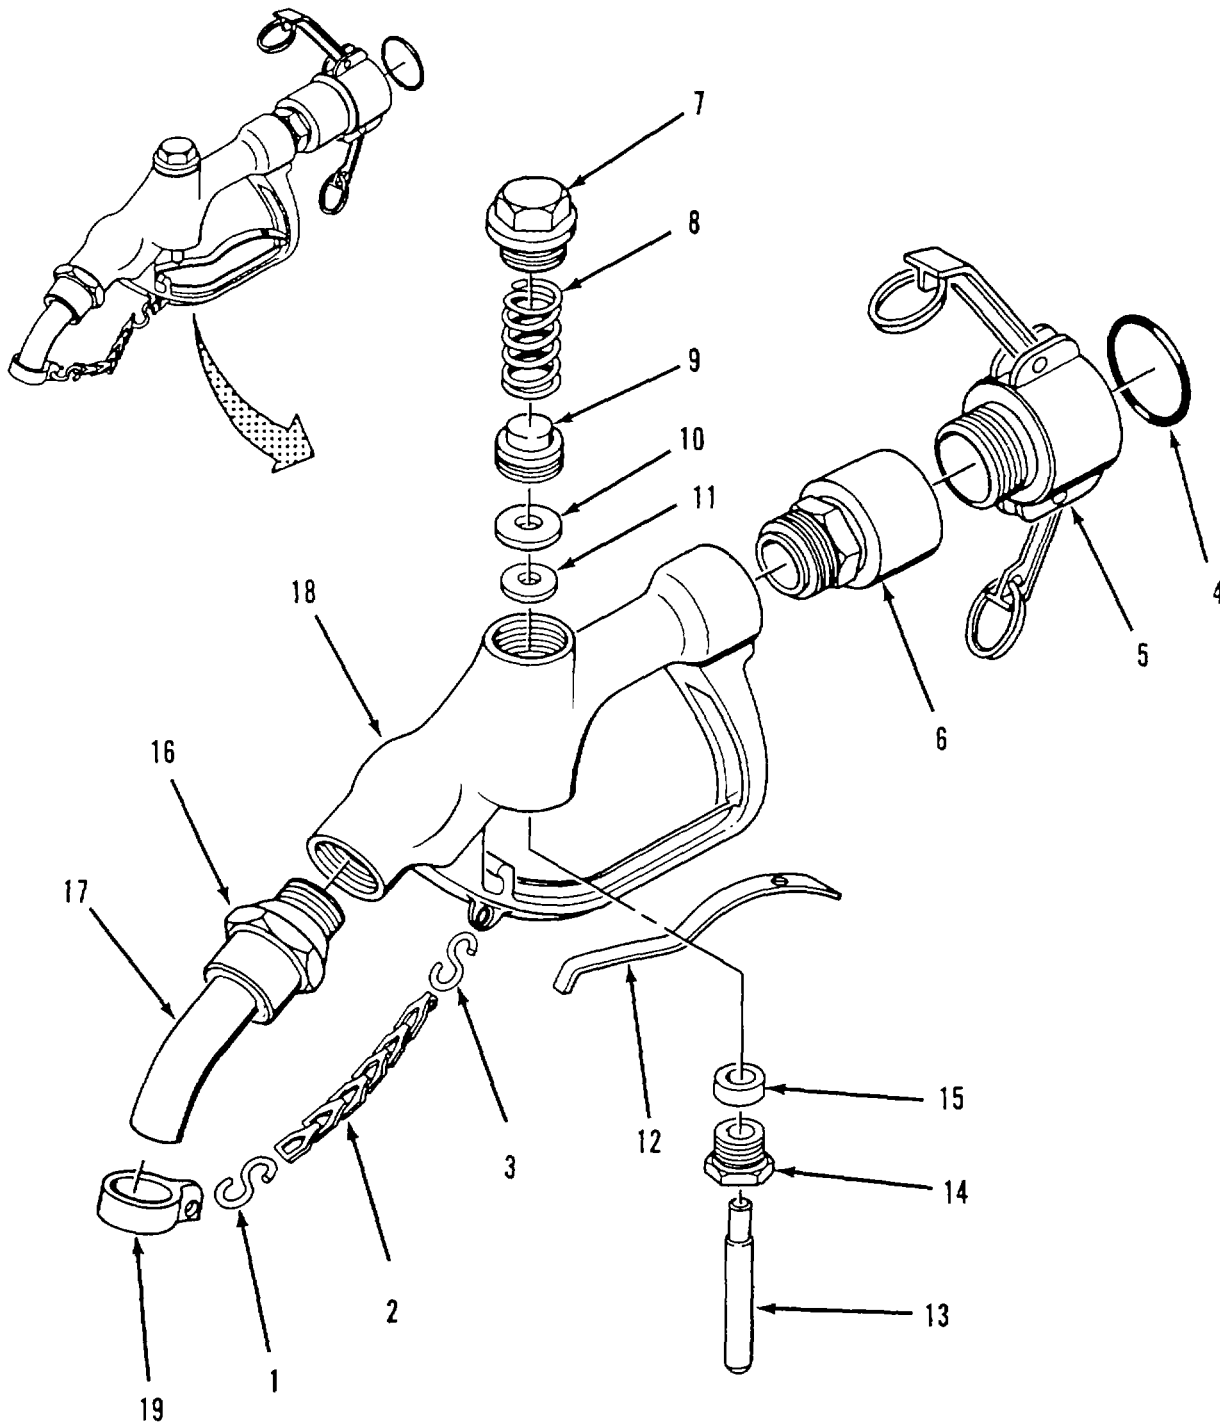

Figure 4-9. Distribution Nozzle (1-Inch) Assembly.
- (1) Inspect body (18) and tube (17) for cracks and stripped or damaged threads.
- (2) Inspect handle (12) for bends and cracks.
- (3) Inspect stem (13) for scoring. Check that stem is straight.
d. Repair. Replace damaged parts. Do not reuse gasket (4), packing (15) or disc (10).e. Assembly. Refer to figure 4-9.
- (1) Position end of tube (17) on body (18) and secure with jam nut (16).
- (2) Install packing (15) and packing nut (14) in body (18). Do not tighten packing nut.
- (3) Push stem (13) into packing nut (14) from top of body (18). Make sure stem is positioned as shown.
- (4) Position handle (12) in body (18). Push down on stem (13) to keep handle in place.
- (5) Place disc washer (11), disc (10) and disc holder (9) on top of stem (13).
- (6) Position spring (8) on top of disc holder (9) and install cap (7) on body (18).